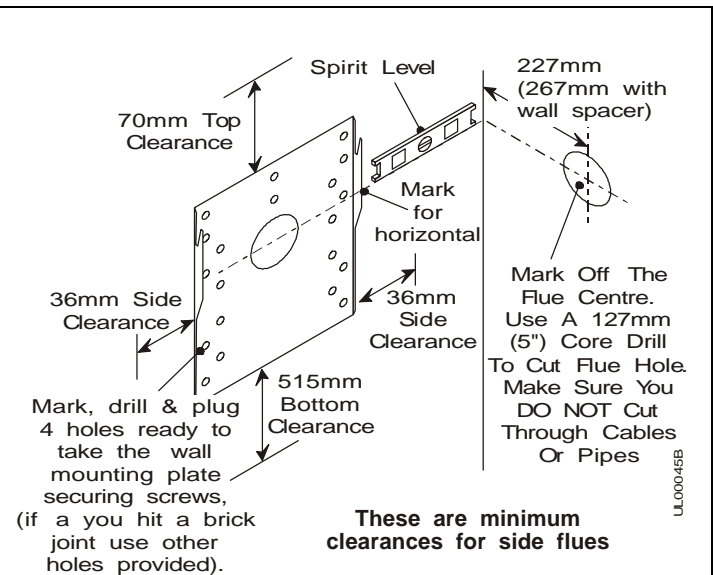

Fig 15
4. From the centre of the flue hole on the wall mounting plate draw a level horizontal line along the wall to the corner, continue the horizontal line along the side wall and mark the position of the flue hole as shown. See Fig.15.